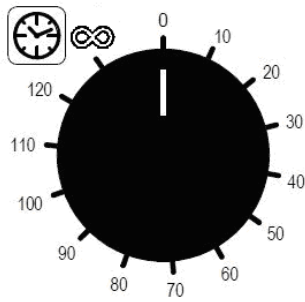

Fig.4
**Cooking time programming** - The oven is put into operation by turning the programmer knob (Fig.4) to the ∞ symbol (continuous operation) or to the selected cooking time (up to 120 minutes); in the latter case the end of cooking is signalled by the automatic switch-off of the oven.